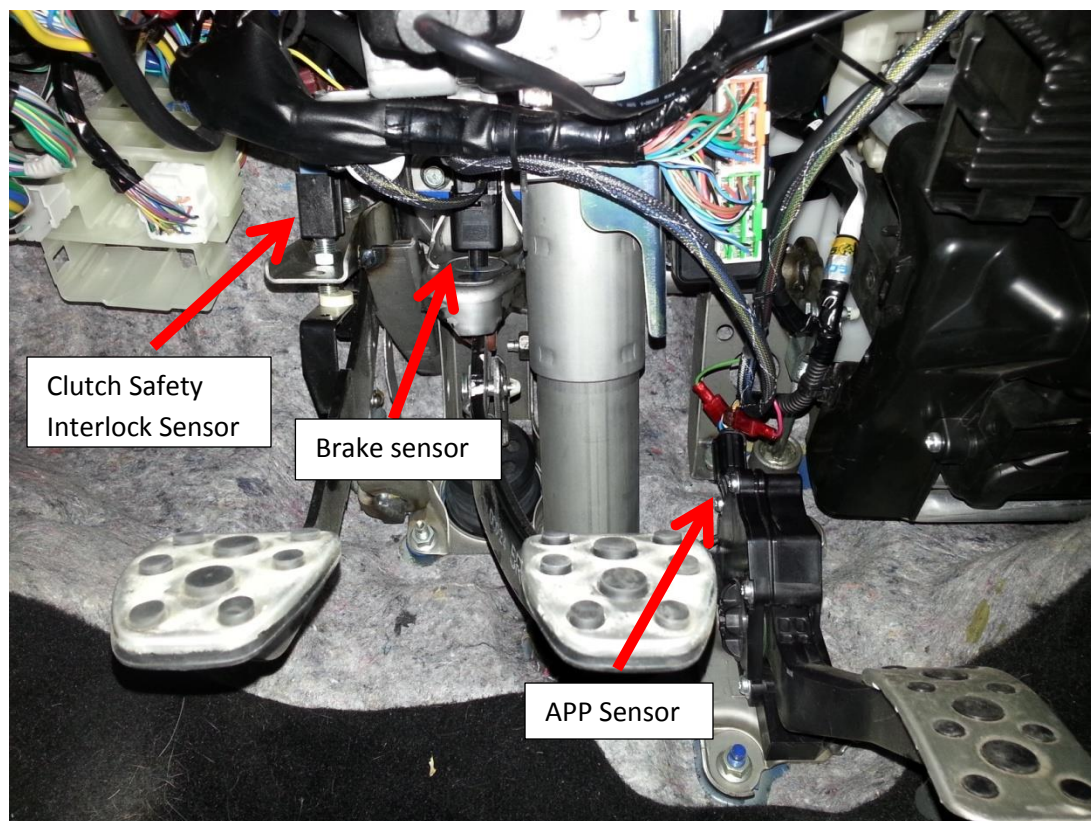

Figure 1 (Sensor location)
1. Attach supplied wiretap to the **blue/black** wire on the clutch safety interlock sensor (**Figure 1 & 2**).
6. Attach supplied wiretap to the **blue/white** wire on the clutch safety interlock sensor (**Figure 1**).
8. Attach supplied wiretap to the **white/blue** wire on the brake pedal sensor (**Figure 1**).
10. Attach supplied wiretap to the **brown/white** wire on the brake pedal sensor (**Figure 1**).
12. Locate Accelerator Pedal Position Sensor (APPS) (**Figure 1**).